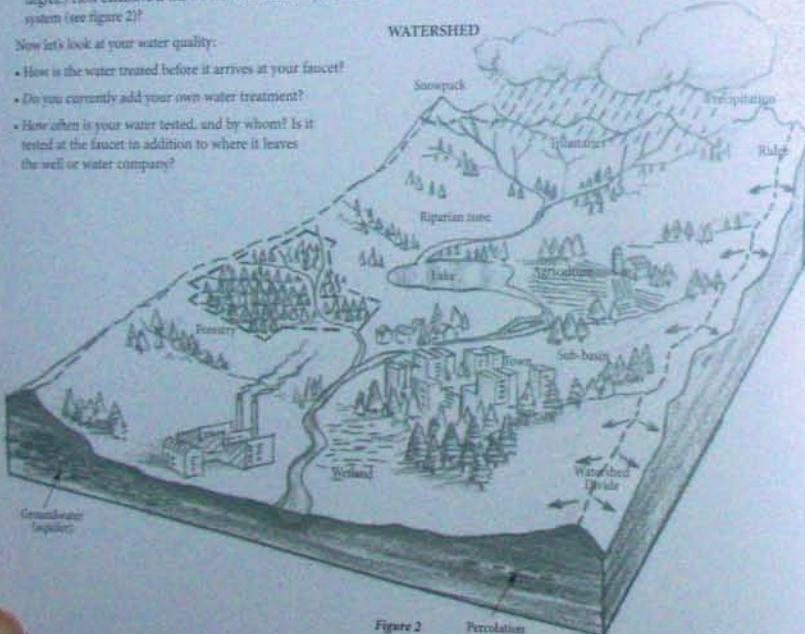

Figure 2
- Does your water source replenish itself faster than you draw water out, individually or as a community? (In many areas, the underground water table is getting lower, while the concentration of solids in the water is increasing to an unhealthy degree.) How extensive is the watershed that feeds your water system (see figure 2)?